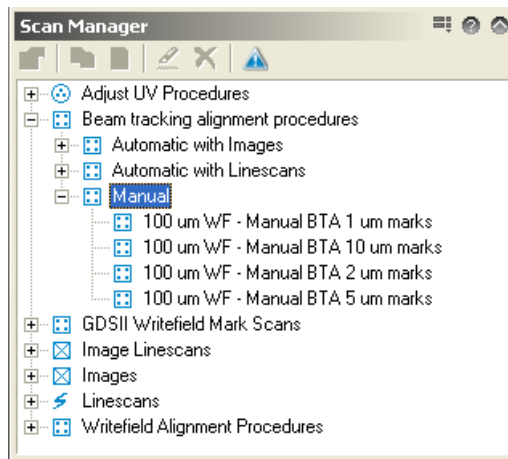
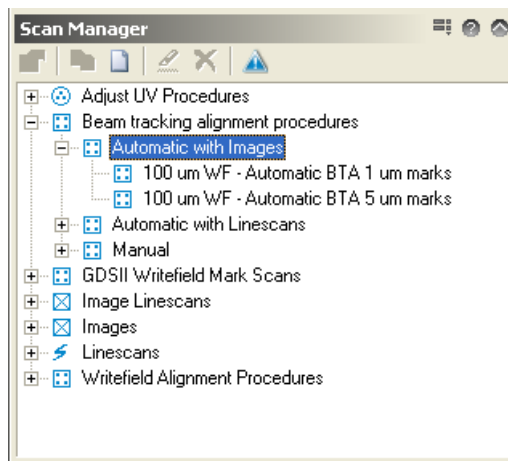

Figure 22: Manual beam tracking alignment procedures.
Figure 23: Automatic beam tracking alignment procedures.
12. **If you do use the fixed-beam moving-stage mode** in your patterns, you also have to perform Beam-tracking alignment, which is very similar to the writefield alignment procedures. **If you do not use the FBMS jump to step 15.** The corresponding procedures are stored in the scan manager under 'Beam tracking alignment procedures' - see Figure 22 and Figure 23. With these procedures the electronics deflecting the beam during a fixed-beam moving-stage exposure are calibrated (The beam is not completely fixed but corrects errors of the stage movement - otherwise it would be very difficult to expose sharp corners for example).